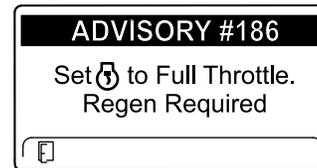

Figure 44
**Note:** If the engine exhaust temperature is too low, the InfoCenter displays ADVISORY #186 (Figure 44) to inform you to set the engine to full throttle (high idle).